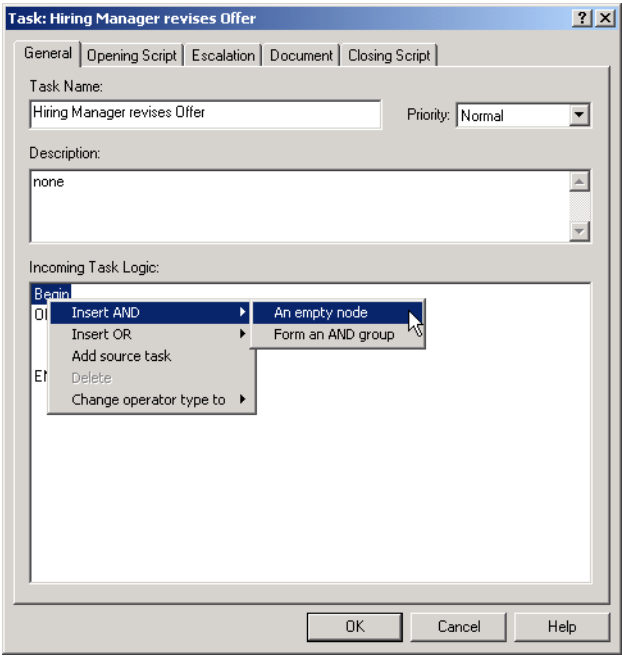

Figure 30-10. You can insert an empty node or form an *AND* or *OR* group.
- 1 Right-click on the General tab, then right-click on the Begin statement, and select **Insert Empty Node** from either the **Insert AND** or **Insert OR** drop-down menu (see Figure 30-10, below).